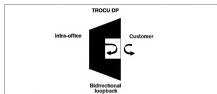
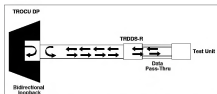

Figure 5. OCU Loopback at the TROCU DP
Figure 6. TROCU DP Bidirectional Loopback Pass-Thru Mode
If required, your appliance can also be installed semi-permanently (Fig. 5).
- Drill a hole $\varnothing$ 5,25 inches (134 mm) in an outside wall or through a window pane. Respect the dimensions and height of the hole given in figure 6 and 7.
The TROCU DP will execute a bidirectional loopback when performing an OCU loopback at the TROCU DP as shown in **Figure 5**. If the TRDDS-R detects a bidirectional loopback during power-up synchronization, the TRDDS-R allows data to pass on the four-wire interface by entering into the pass-thru mode. This allows a standard portable DDS test set, connected to the four-wire customer interface of the TRDDS-R, to verify the integrity of the two-wire loop by transmitting a test pattern and examining the returning data for synchronization and errors. The TROCU DP LBLK LED will illuminate solid during an OCU loopback. Refer to **Figure 6** for an illustration of the bidirectional loopback pass-thru mode.